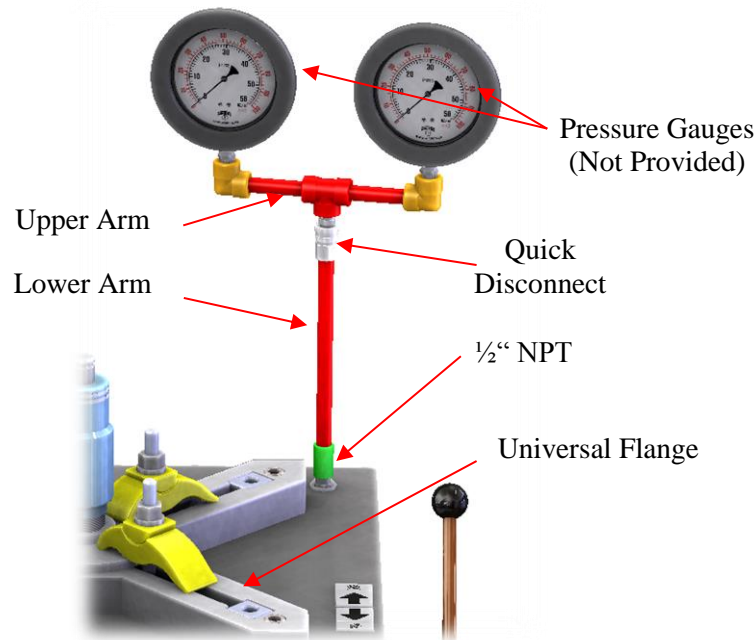

Figure 5: Gauge Arm
- Additional gauges (not provided) are used for test results. These gauges will be installed on the gauge arms. See Figure 5.
1. Attach the gauge arm to the test stand. See Figure 5.